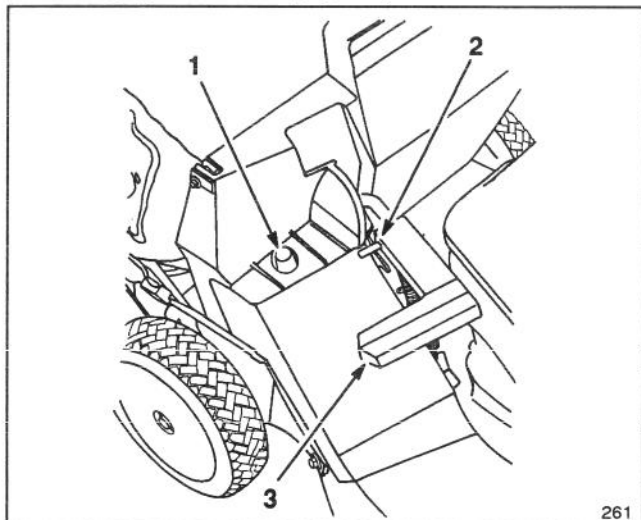

Figure 12
2. Ensure discharge door handle is fully forward and pin is engaged in catch (Fig. 12).
3. **INSTALLING BAG** — Slide hole in bag frame onto retaining post on housing (Fig. 12) and set rear of bag frame onto lower handle.
5. **EMPTYING BAG**—Stop engine and wait for all parts to stop. Raise discharge door handle and move it forward to engage the locking pin with catch (Fig. 12). Grasp handle at front and rear of bag and lift bag off mower. Gradually tip bag forward to empty clippings.